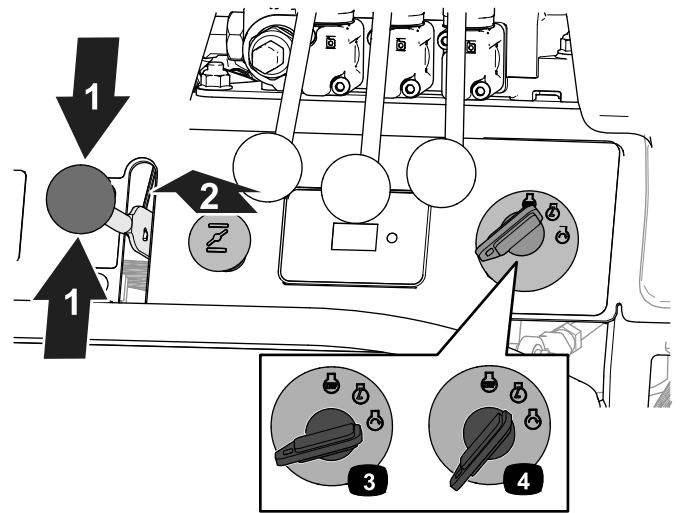

Figure 27
3. Move the throttle midway between the SLOW and FAST positions (Figure 27).
4. If the engine is cold, pull the choke control to the ON position (Figure 27).
5. Rotate the ignition key to the START position (Figure 27).
6. When the engine starts, rotate the key to the RUN position (Figure 27).
8. As the engine warms up, push the choke control toward the OFF position (Figure 27).